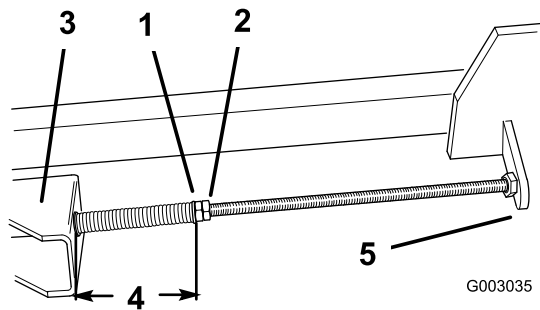

Figure 45
5. Loosen the jam nuts on the adjusting shafts to relieve the tension on the drive belt, then remove the worn drive belt from the pulleys (Figure 45).
8. Tighten the front jam nut on each adjusting shaft until the springs are completely compressed, approximately 4-3/4 inch (12 cm) measured between the washer and the bushing, then back the front jam nuts off one turn (Figure 45).
9. Tighten the rear jam nuts (Figure 45).